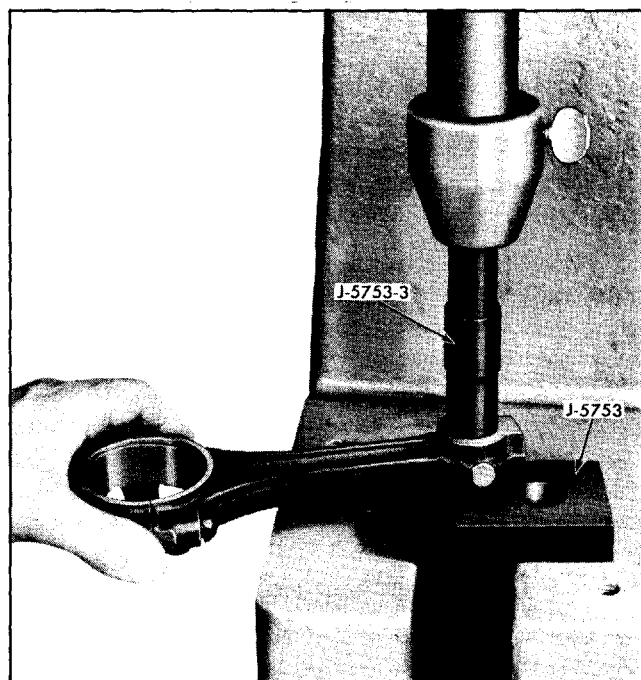

Fig. 6-61 Removing Connecting Rod Bushing
1. Press out old bushing using Bushing Remover and Installer J-5753-3 and Block J-5753 (Fig. 6-61). **NOTE:** For removal of bushing, the smallest diameter (third shoulder) on tool is inserted in bushing.